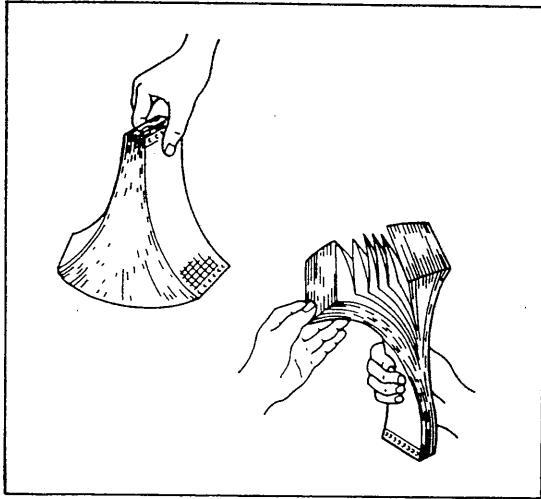

Figure 5-1.
- (1) Fan chart paper thoroughly at both ends before loading (See Figure 5-1).